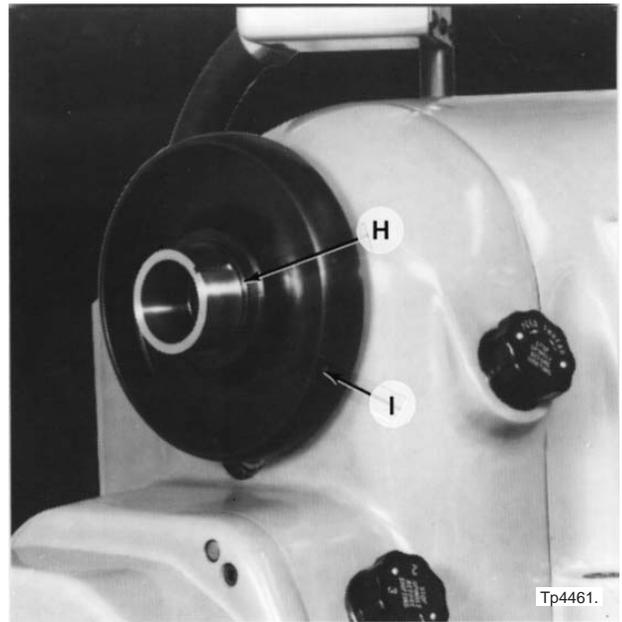

Figure 4.5 - Spindle Headwheel
2. Remove snap ring "H", Figure 4.5, and remove handwheel "I".